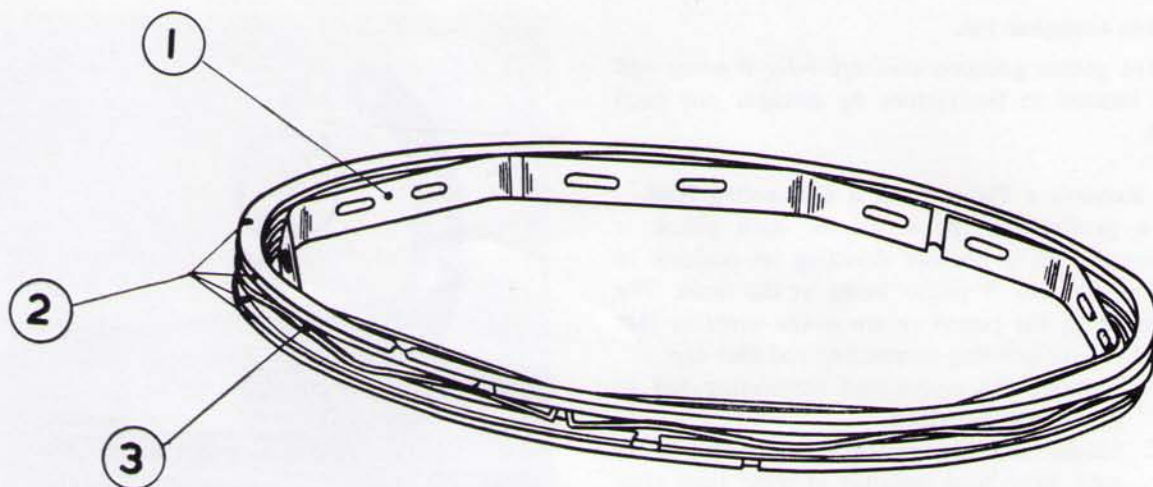

Fig. J.6.
The spring loaded scraper ring comprises one internal expander ring (1), two rail rings (2) each side of the spiral ring (3). See Fig. J.6.